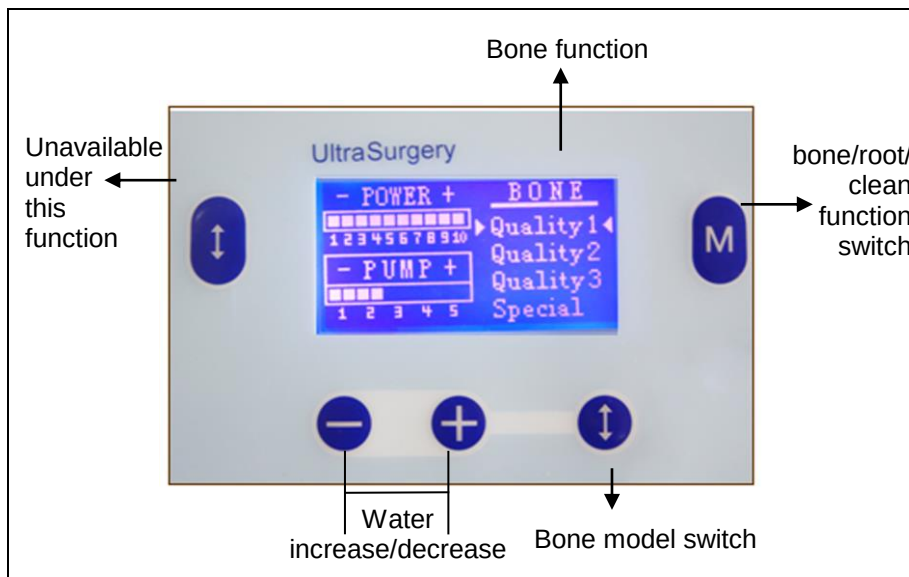

Fig. 8
a) *BONE function (Fig. 8)*
- 5 *Once the cleaning cycle has been completed, the device exits from the CLEAN function and returns to BONE function (Fig. 8);*